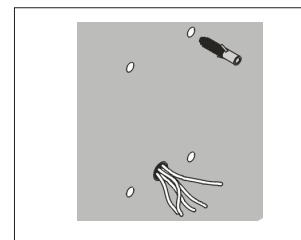

Fig. 4
- 4 - Locate the plugs (Fig. 4);